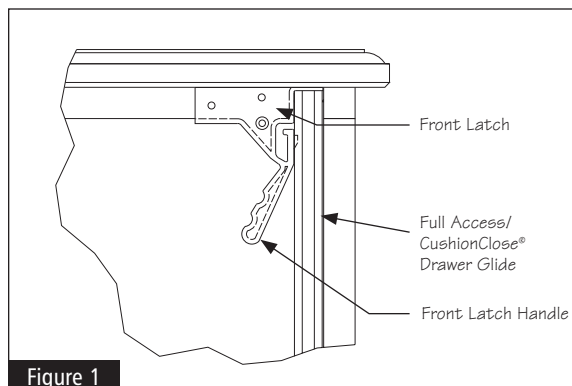

Figure 1
**1** Determine which cabinet this unit will be installed in and remove existing drawer body from cabinet by pulling the black front latch handles on the bottom of the drawer (see Figure 1) toward the outside of the drawer body. Unscrew the drawer front from the existing drawer body, noting the bottom edge.
**5** Verify that the front latches secure the glide (see Figure 1). Pull the drawer out fully and either visually confirm this or feel for full engagement of the glide into the latches. If the latches did not fully engage the glide, it is possible for the drawer to come out during use and possibly cause injury.